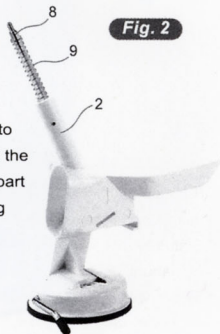

Fig. 2
2. Following that, as per Fig. 2, envelop Spring (9) in-between Seed-stripping Rod (8) and Casing (2) from top to bottom in exposing the thread on the top part of Seed-stripping Rod (8).